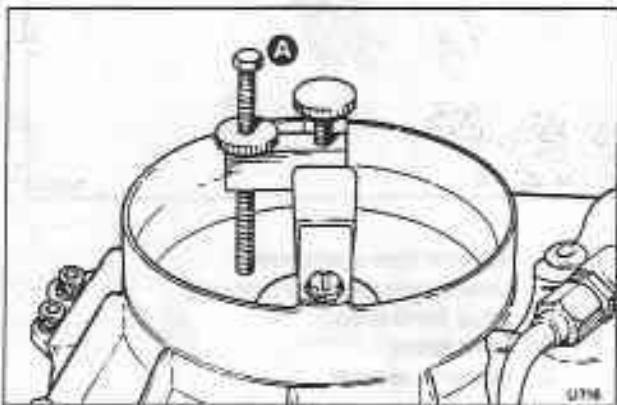

Fig. B2-35 Air flow sensor plate movement adjustment device
6. Press switch number one on the test equipment and move the air flow sensor plate downwards (using the adjusting device shown in figure B2-35) until the reading on the small rotameter indicates a flow of approximately $6,7 \text{ ml}/\text{min}$.